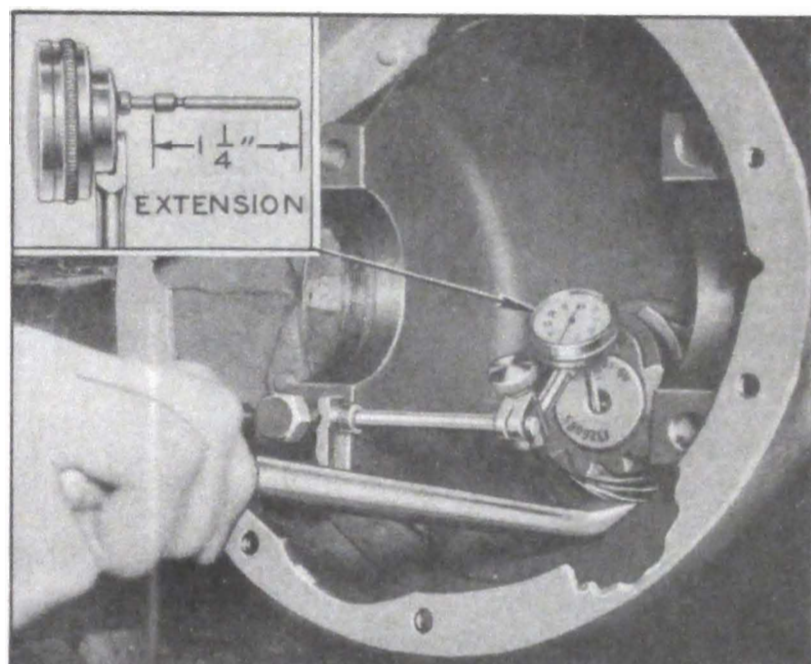

Figure 6-6—Testing Pinion Bearing Wear
2. At this point it may be desirable to test pinion shaft bearing wear without removing pinion shaft. Install $1\frac{1}{4}$ " extension on stem of dial indicator and mount indicator to bear down against center drilling in pinion gear, with indicator stem as near vertical as possible. See figure 6-6. Gently pry up on pinion gear with bar a number of times while observing indicator reading. A reading in excess of .0015" indicates that bearing is worn enough to produce noisy gear operation.